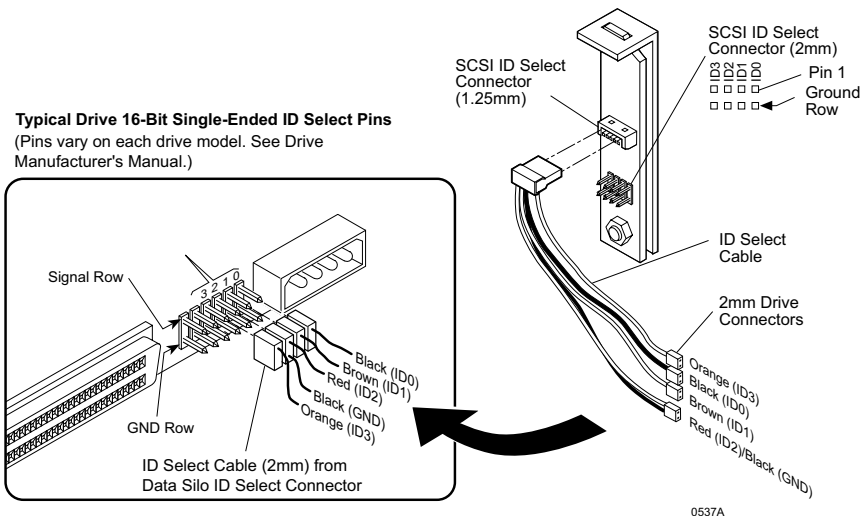

Figure 12: 16-Bit SCSI ID Cable Connection
The unit ID cable contains **black**, **brown**, **red/black**, and **orange** wires. Attach four (4) connectors from the SCSI ID select cable to the appropriate 2mm drive pins (Figure 12).